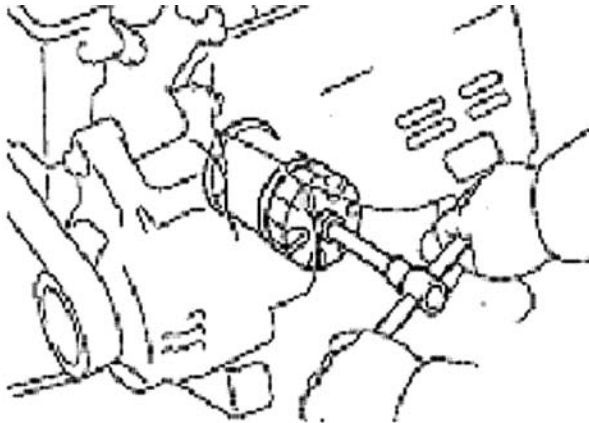

Figure 88
1. Detach oil filter sub-assembly. See (Figure 88)